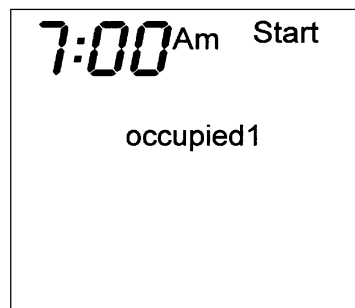

Fig. 5 — Start Time Display
7. The Start Time for Occupied 1 for the chosen day will be displayed. Use the UP ARROW and DOWN ARROW buttons to raise or lower the time until the desired Start Time is shown. Press the Mode button to continue. See Fig. 5.